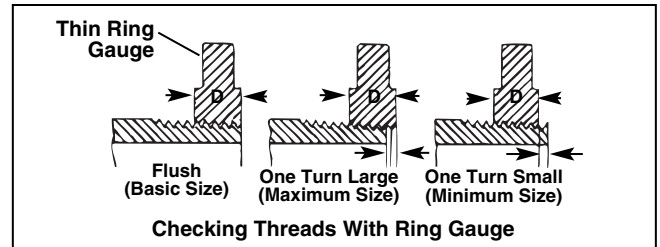

Figure 11 – Checking Thread Size
3. Inspect the size of the thread. The preferred method of checking thread size is with a ring gauge. There are various styles of ring gauges, and their usage may differ from that shown in *Figure 11*.